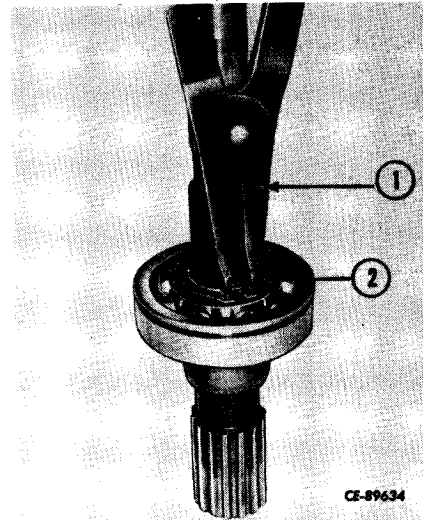

Figure 11-34
Using a snap ring pliers (1, Fig. 11-34), install the snap ring (2) on the shaft.